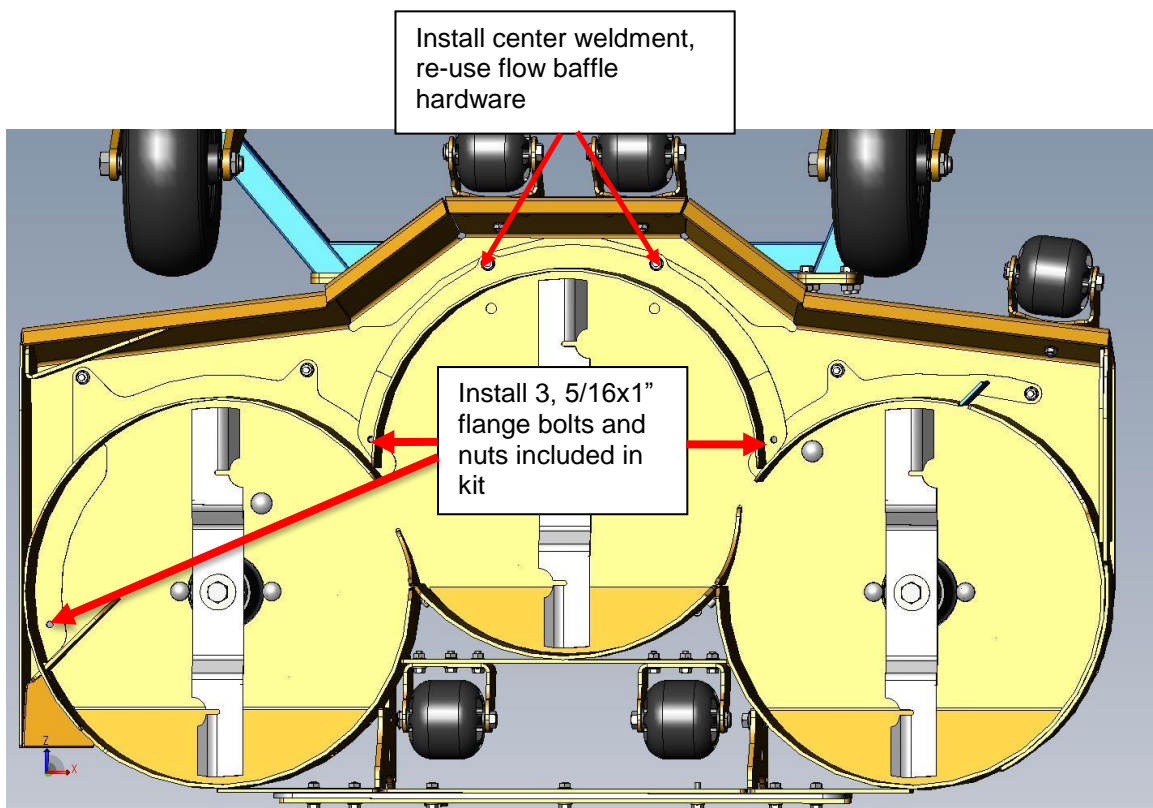

Figure 2
- 6) Install the Center weldment. (Fig.2)